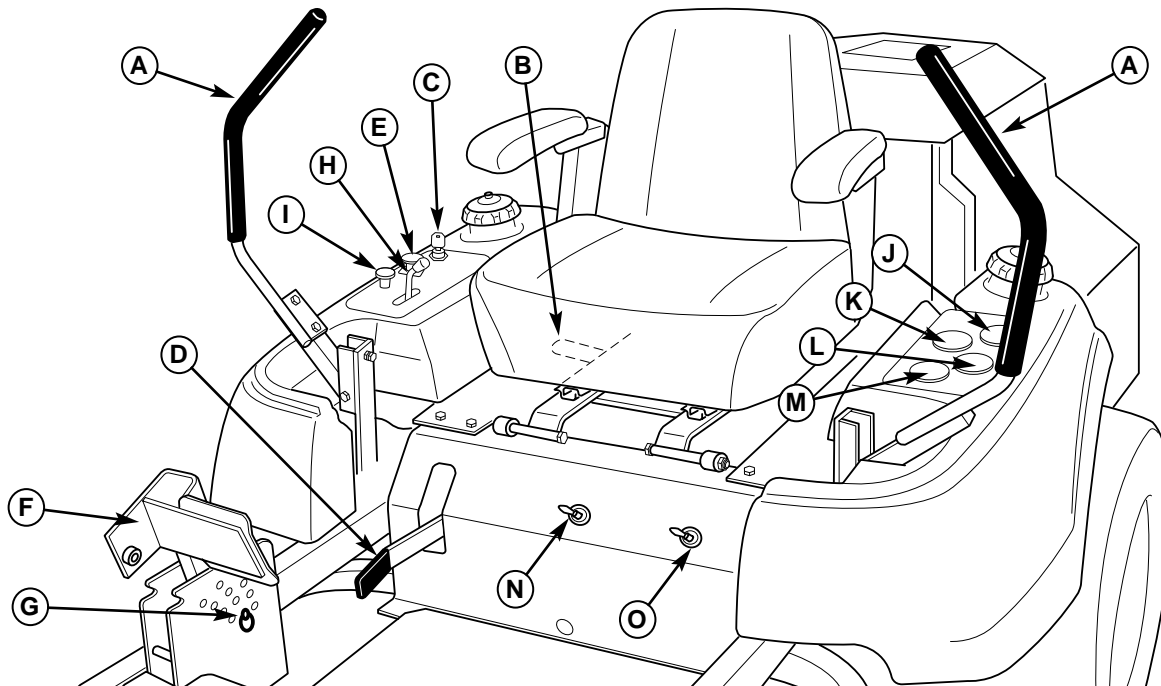

Figure 1. CONTROL FUNCTIONS
Set the engine throttle control (H, Figure 1) to FAST throttle position. Then fully close the choke (I, Figure 1) by pulling the knob OUT fully.
3. Insert the key into the ignition switch (C, Figure 1) and turn it to START.
1. Returning the ground speed control levers (A, Figure 1) to the middle position will stop tractor movement. Pivot the levers outward and lock them in NEUTRAL.
2. Disengage the PTO by pushing down on the PTO switch (E, Figure 1).
3. Engage the parking brake by pulling the handle (D, Figure 1) up until it locks into position.
4. Move the throttle control (H, Figure 1) to mid-throttle position and turn the ignition key to OFF. Remove the key.